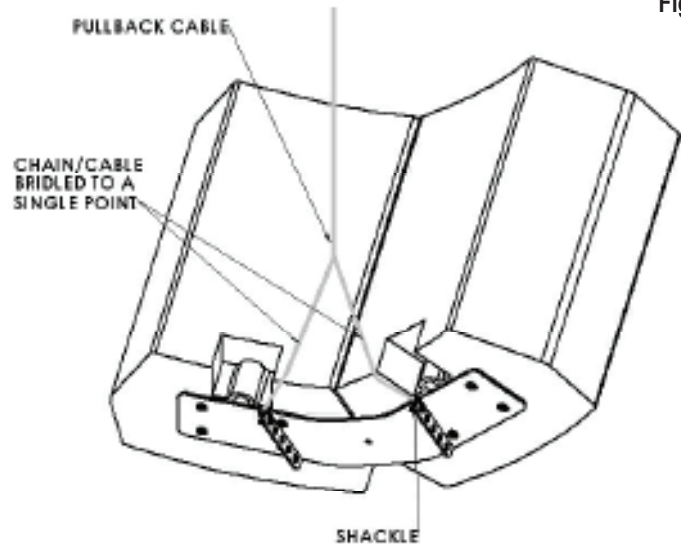

Figure 3
Step 4 Optional: Attached shackles on the rear holes of the bottom suspension/joiner plate's bars. Bridle a rigging chain or cable from the shackle to a single point at the back for a single pull back point (Figure 3.).